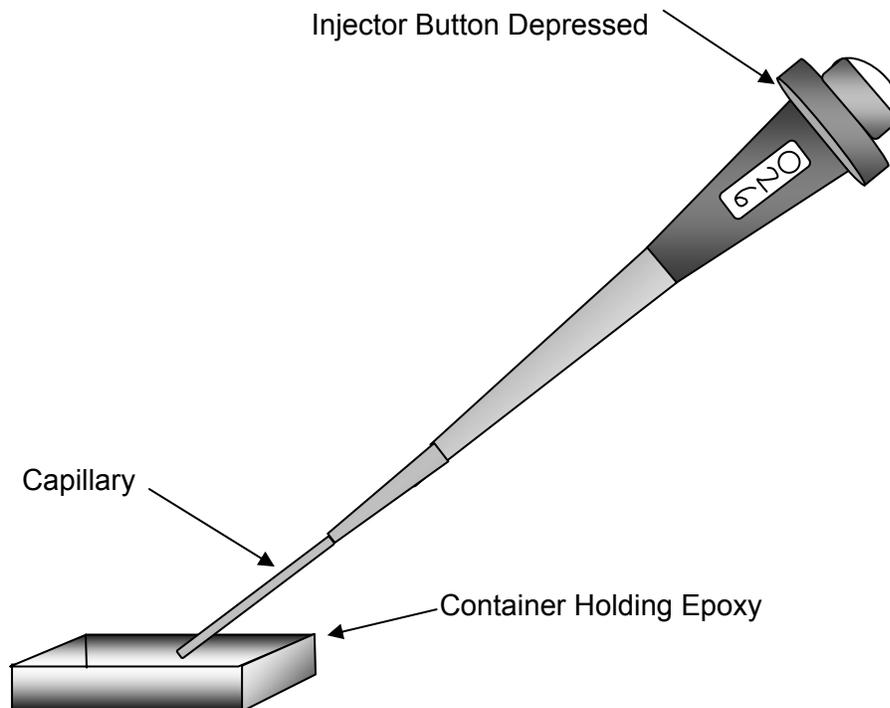

Figure 7-29 – Picking up the Epoxy into Resin Injector
Step 7 - Depress the injector push button and introduce the end of the capillary into the container holding the EPO_TEK 353ND epoxy. Gently release the injector push button to pick up the epoxy until the piston is fully extended. See Figure 7-29.